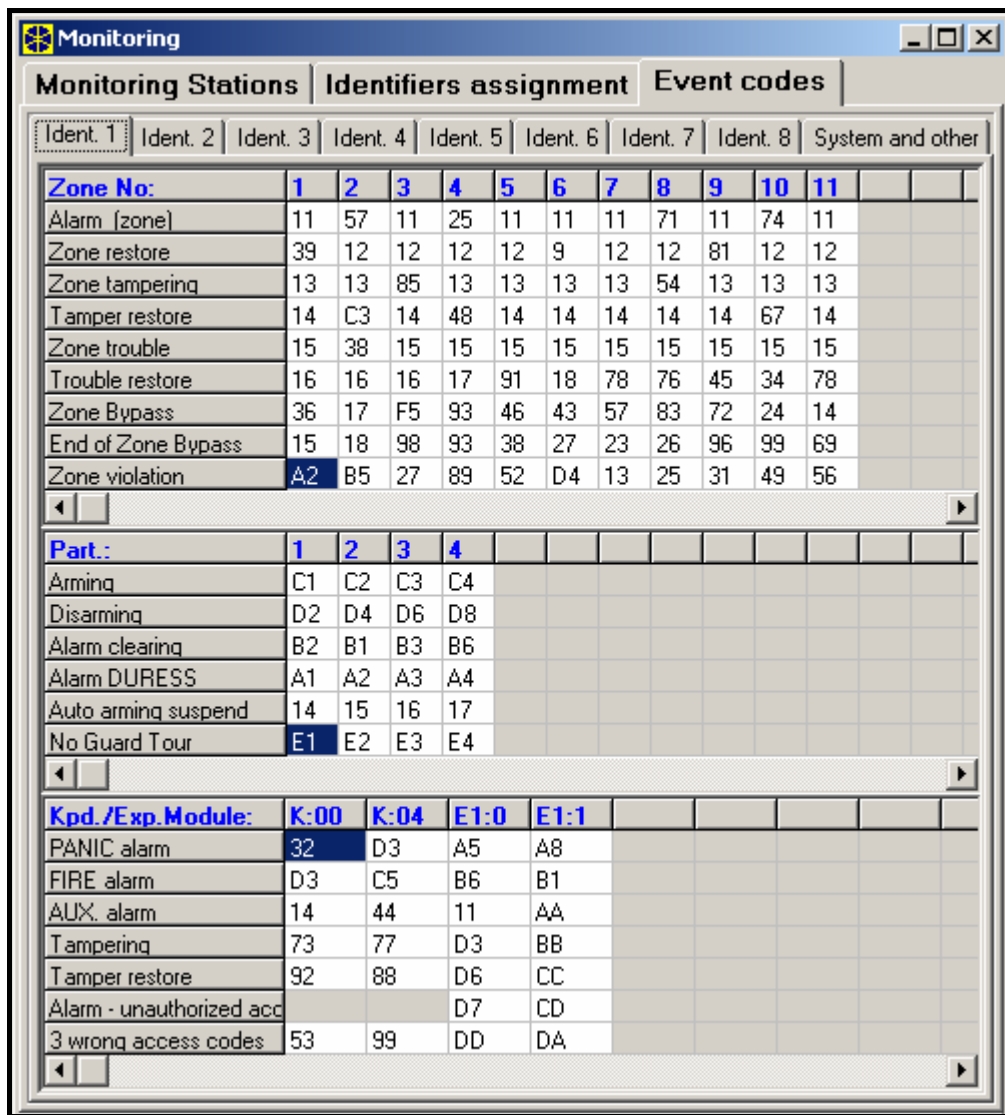

Fig. 10. Programming of monitoring codes for pulse formats.
Event codes are programmed after the division is made. The DLOADX program (and corresponding service functions) shows all events assigned to the identifier, which facilitates correct programming of codes (the event code window shows only the fields for those codes which will be transmitted with the given identifier – see Figure 10).
- The event codes shown in Figures 10 and 11 are taken at random to illustrate an example of programming. They should be programmed as recommended by the monitoring station operating personnel.